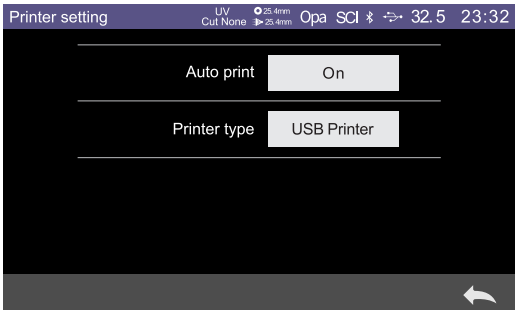

Figure 32 Printing setting
- 4、 Connect the micro printer to the instrument via USB or Bluetooth (Bluetooth printer required); Bluetooth print Settings are shown in Figure 32. Click  search to select the device;